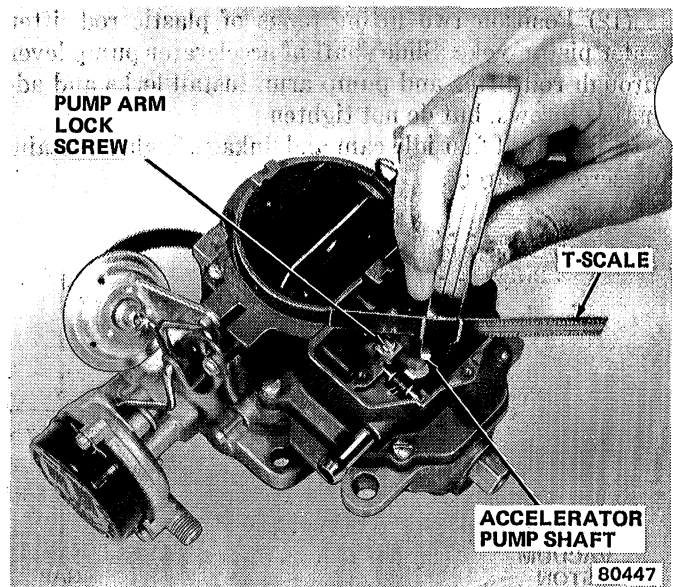

Fig. 1J-110 Accelerator Pump Adjustment
- (1) Remove dust cover.
- (2) Back off idle speed adjustment screw to completely close throttle valves. Open choke valve so that fast idle cam allows throttle valves to seat in bores.
- (3) Turn idle speed adjustment screw in until it barely contacts stop. Then continue two complete turns.
- (4) Measure distance between surface of air horn and top of accelerator pump shaft (fig. 1J-110). Refer to Specifications for correct dimension.
- (5) Loosen pump arm adjustment lock screw and rotate sleeve to adjust pump travel to correct distance. Tighten lock screw.
- (6) Install cover and screws.